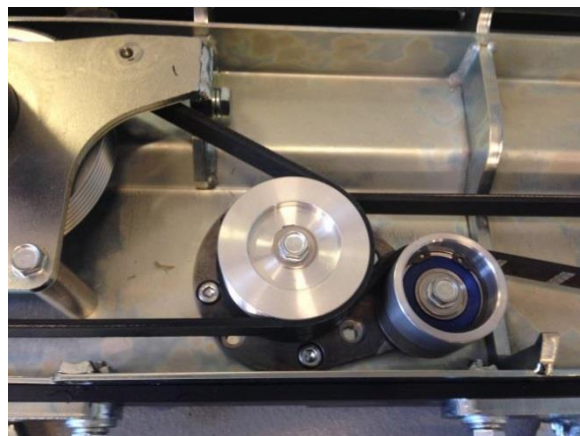

Figure 5.4
- 5.1.2.3 Loosen the four Allen screws, see Figure 5.4;